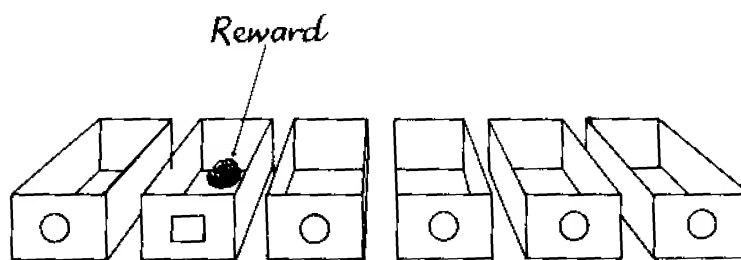

Figure 18.6 Can a mouse recognise shapes?
- Put the mouse about 500 mm from the boxes (see Figure 18.6) and watch how the mouse behaves.